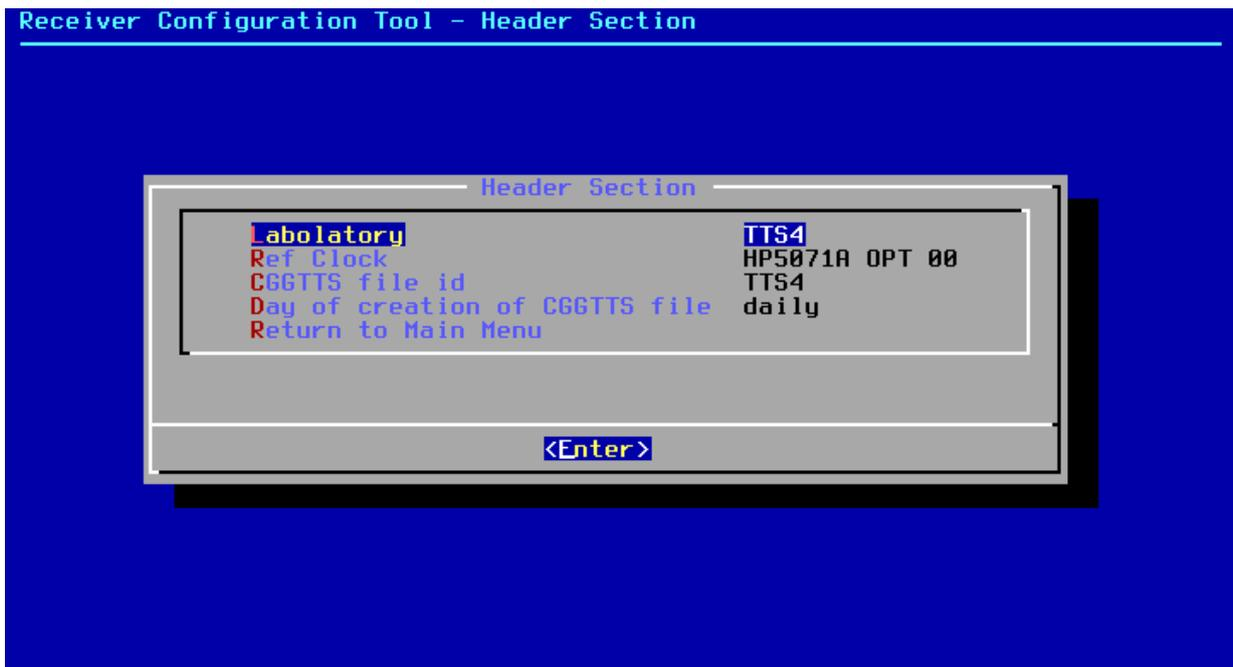

Figure 14: C6GTTS header section.
3. select Header Section and enter the following parameters (fig. 14)